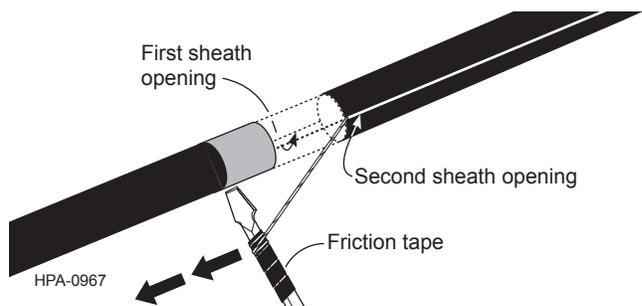

Figure 4
Step 4: Using the shaft of a screwdriver wrapped in friction tape as a handle, pull one ripcord at a time through the sheath to the wrap of tape (Figure 4).